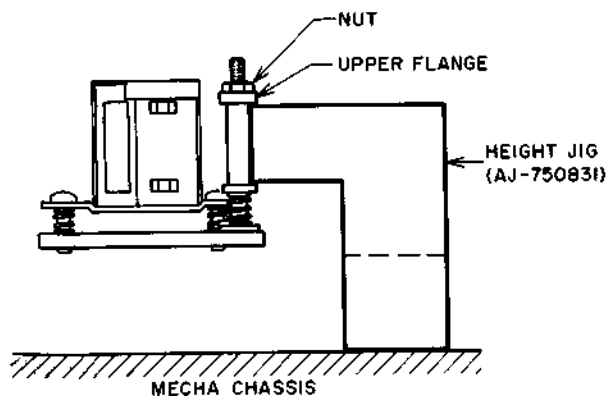

Fig. 7-1
7-1. TAPE GUIDE (R) ADJUSTMENT (Refer to Fig. 7-1)
- 2) Set the height Jig (AJ-750831) on the Mecha. chassis as shown in Fig. 7-1 and check the height of the lower face of the upper flange.